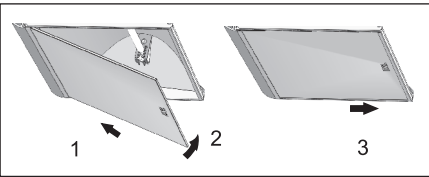

Fig. 15
9. Fit the glass sheets to the heat lamp reflector bodies Fig. 15.